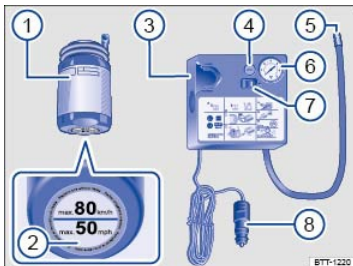

Fig. 234 Basic diagram: Contents of the tire mobility set.
The tire mobility set may be stored in one of several places in the luggage compartment (for example, in the side storage compartment or under the floor covering). contains the following ⇒ Fig. 234:
- Vigorously shake the tire inflation cylinder ⇒ *Fig. 234①* a few times back and forth.
- Tightly screw the inflation hose on the air compressor ⇒ *Fig. 234⑤* to the valve on the top of the sealant cylinder.
- Tightly screw the filling hose from the tire inflation cylinder ⇒ *Fig. 234①* to the tire valve.
- Hold the cylinder with the bottom pointing up and insert the top of the cylinder into the notch in the air compressor ⇒ *Fig. 234③*.
- Insert the 12 Volt plug ⇒ *Fig. 234⑧* into one of the vehicle's 12 Volt sockets ⇒ *Power outlets*.
- Switch the air compressor on using the ON/OFF switch ⇒ *Fig. 234⑦*.
Connect the inflation hose ⇒ Fig. 234⑤ from the air compressor to the tire valve and read the tire pressure on the tire pressure gauge ⑥.